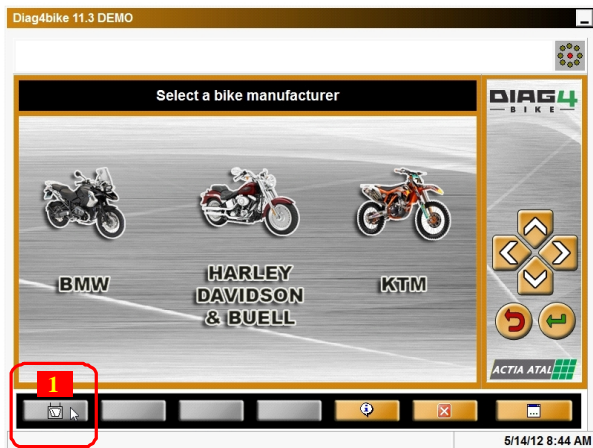
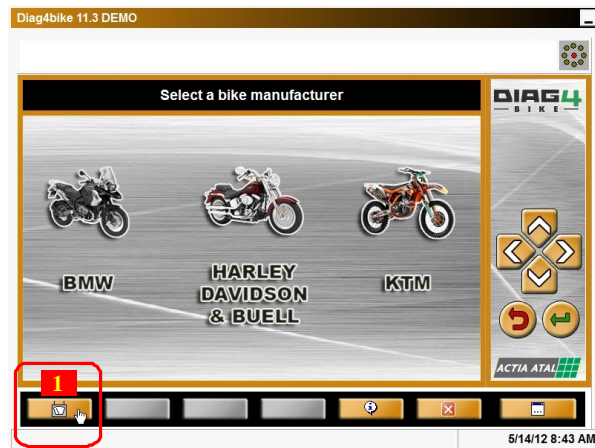
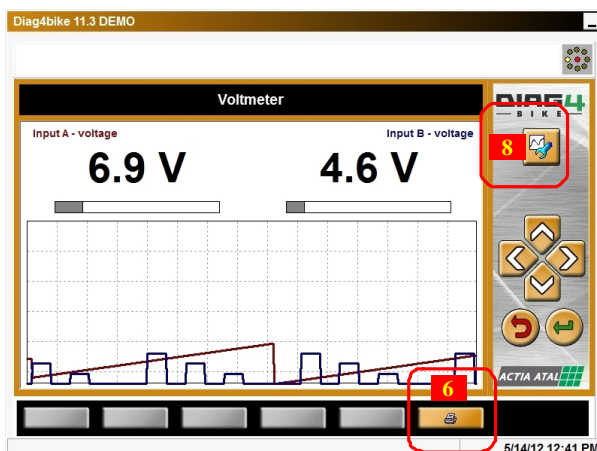

Fig. 40 – Indication of **unavailability** of analog measuring
Fig. 41 – Indication of **availability** of analog measuring
Fig. 46 – Example of measuring with voltmeter in two channels.
After the DIAG4BIKE® program is started, it is immediately seen in the button at pos 1, Fig. 40, if the analog measuring function is available or not.
If the function is not enabled, the button at pos. 1, Fig. 40 will be displayed in grey (inactive). If the function is enabled, the button at pos. 1, Fig. 41 will be displayed in full colour (active).
The setting result is indicated through the button at pos. 1 Fig. 40 or Fig. 41.
When the analog measuring is enabled (see Chapter 12.5.2/A), then after clicking the button at pos. 1, Fig. 41 the measuring itself is started (see Fig. 46). In this case the voltmeter measures voltages in two channels (A, B) against the ground.
The voltmeter can be used also for measurements with a running engine. Prerequisites for use are a connection of the voltmeter module to the VCI communication interface, and switching on the analog measuring (see Chapter 12.5.2/A). When connection to the motorcycle is created, diagnostics is started, and communication is established, the Voltmeter function can be selected (see Fig. 48 and Fig. 46).